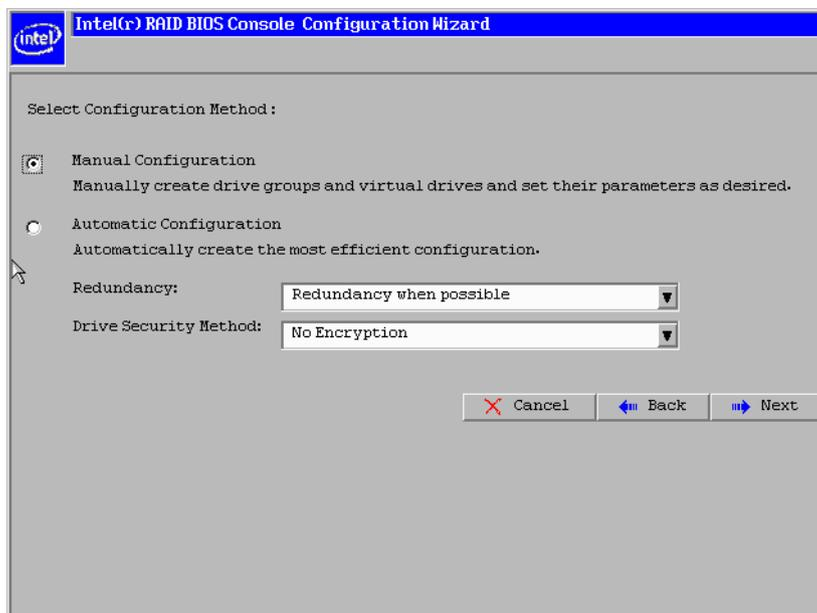

Figure 65. Intel® RAID BIOS Console 2 – Configuration Methods
3. Choose Manual Configuration and click **Next** (see Figure 65).
3. Select **Custom Configuration** and click **Next** (see Figure 65).